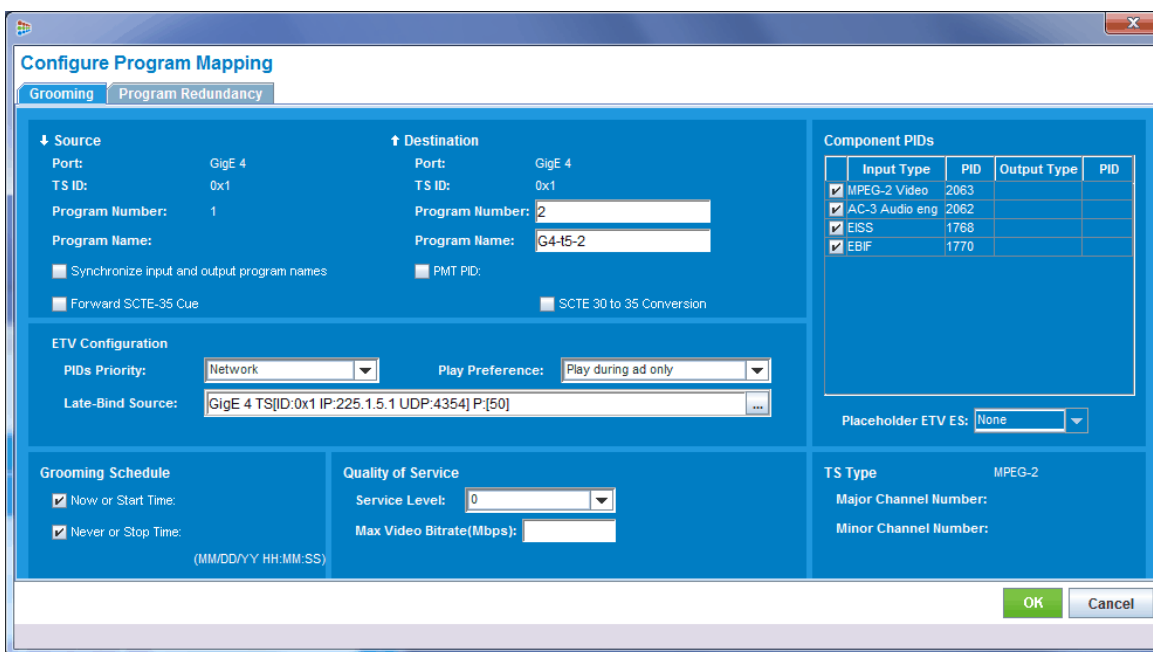

Figure 222. Configure Program Mapping window - Late-bound selected
9. Click **OK** to return to the **Configure Program Mapping** window, which will look similar to Figure 222: